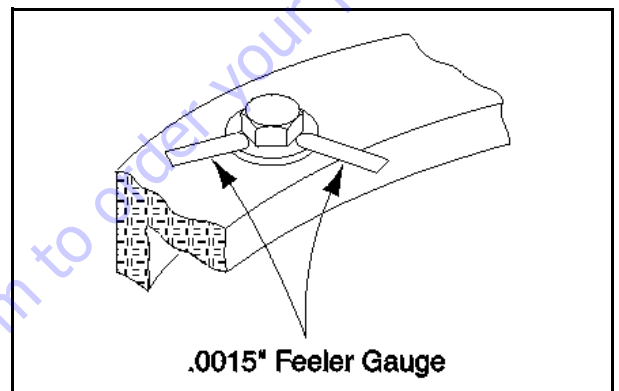

Figure 3-21. Swing Bearing Feeler Gauge Check
- b. At the positions indicated on Figure 3-21. try and insert the 0.0015" feeler gauge between the bolt head and hardened washer at the arrow indicated position.
- d. At the position indicated on Figure 3-21. try and insert the 0.0015" feeler gauge between the bolt head and hardened washer at the arrow indicated position.